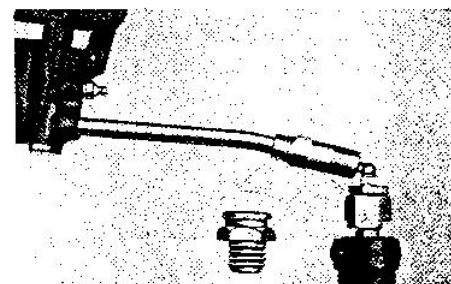

FIG. 12 - 6594 Gun and 6832-A Adaptor used on Button Head Fitting.
- c. Connect Hydraulic Coupling of the 6594 Gun to fitting of the 6832-A Adaptor and operate gun lever until bearing is lubricated (Fig. 12).